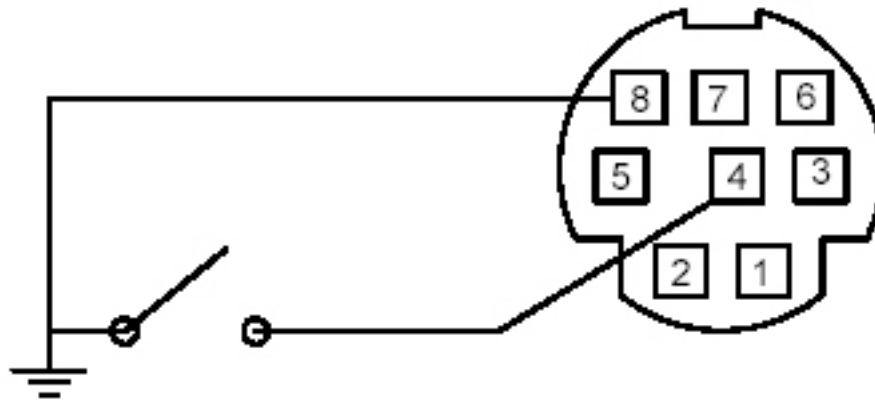

Figure 5. Proper set up for remote tare on meters (Momentarily ground Pin 4 to Tare)
**Note:** A remote tare can be achieved by momentarily grounding pin 4 to tare as shown in Figure 5 on page 9.